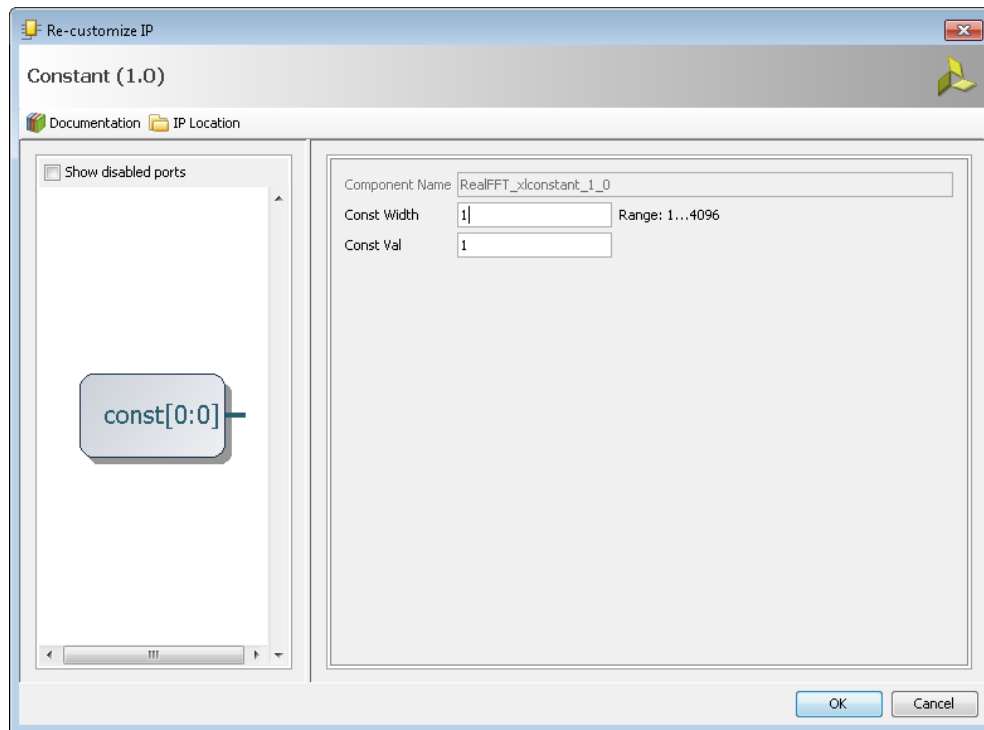

Figure 205: Constant IP Properties
- e. Double-click **Constant IP Symbol** (Figure 205) and verify that the settings for Const Width and Const Val are both ‘1’ and click **OK** to close Re-customize IP dialog box.